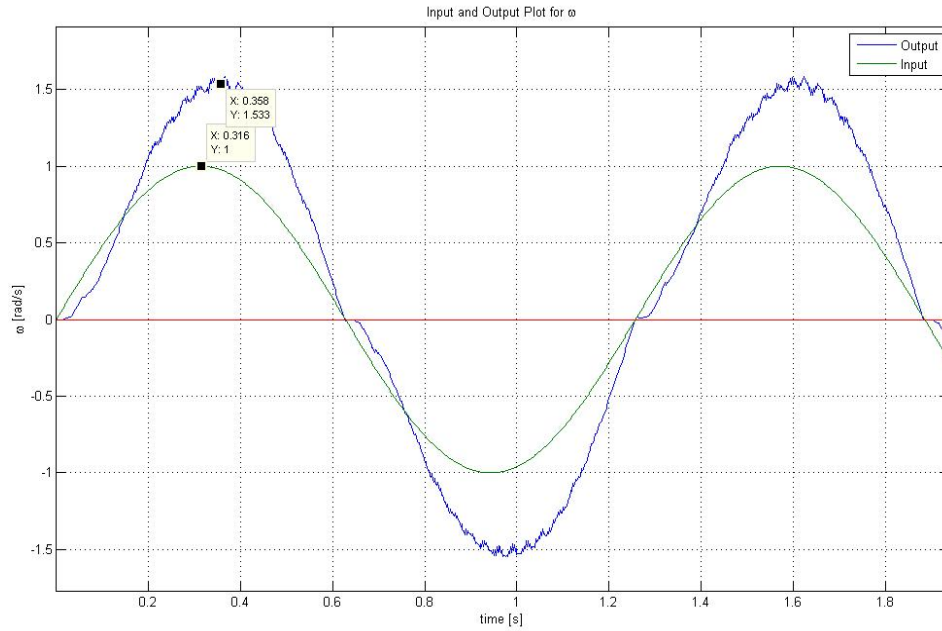

Figure 2.2: Matlab generated plot of the input and output of the system for $\omega_u = 5$ rads/sec
2. The frequency response of a system is determined by first constructing a Bode Plot. This is done by inputting different sine waves with varying frequencies, and measuring the magnitude and phase difference between the input and the output. For example, Figure 2.2 shows the input and output of the system for a sine wave with $\omega_u = 5$ rads/sec. Notice how the magnitude of the output is larger, and the peak time is shifted by roughly 0.05s. This observation will be made for sine waves with frequencies varying from 0.5 rads/sec to 300 rads/sec, or possibly even higher.